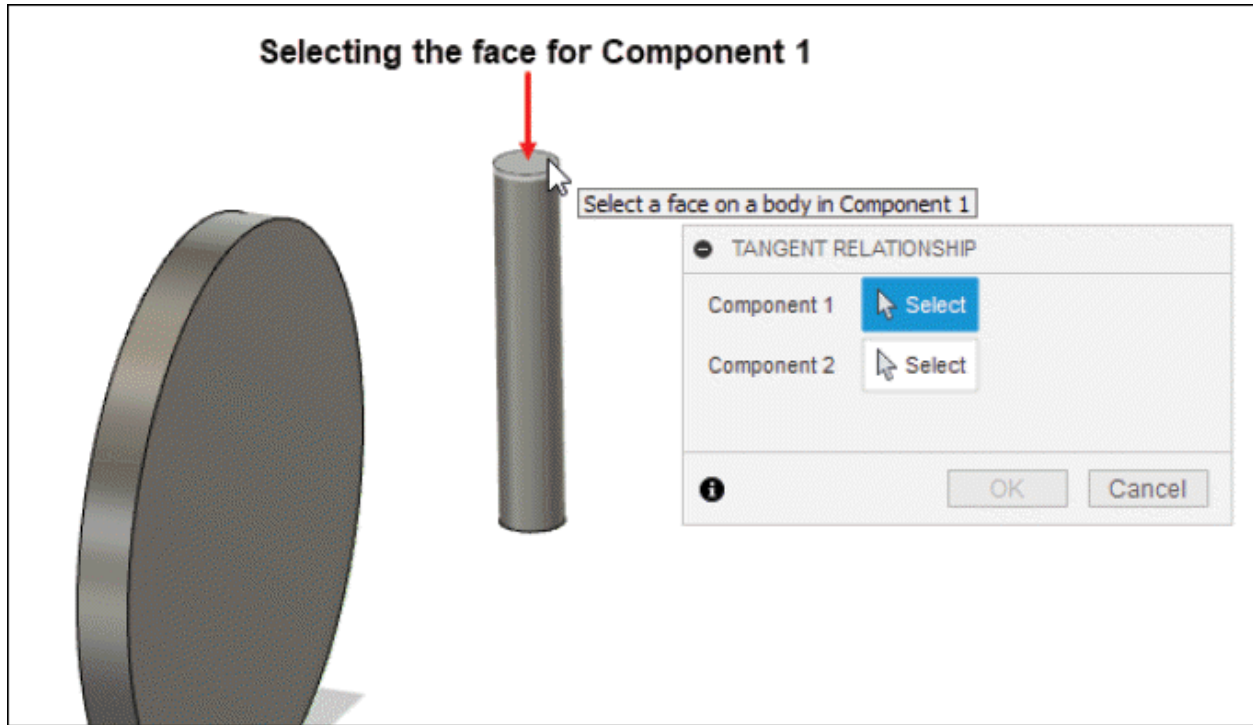

Figure-39. Selecting the face of first component
- The **Component 1** selection button is active by default. Select a face on the body of first component; refer to Figure-39.